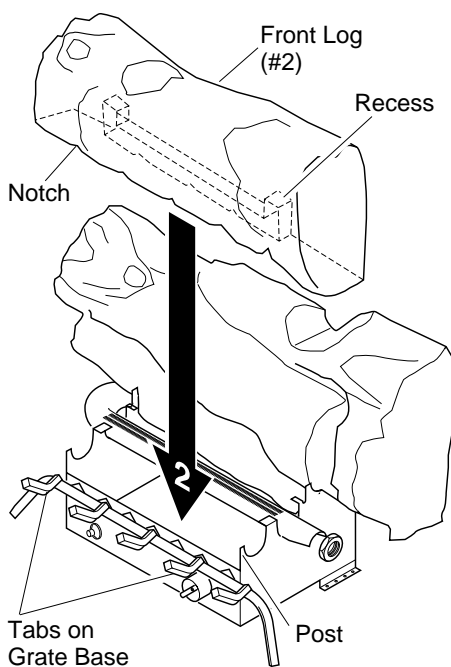

Figure 28 - Installing Front Log
2. Locate the notches on the underside of the front log (#2). Also notice the recesses on the back of log #2. Slide the notches over the tabs on the grate base and the front posts into the recesses on the back (see Figure 28).